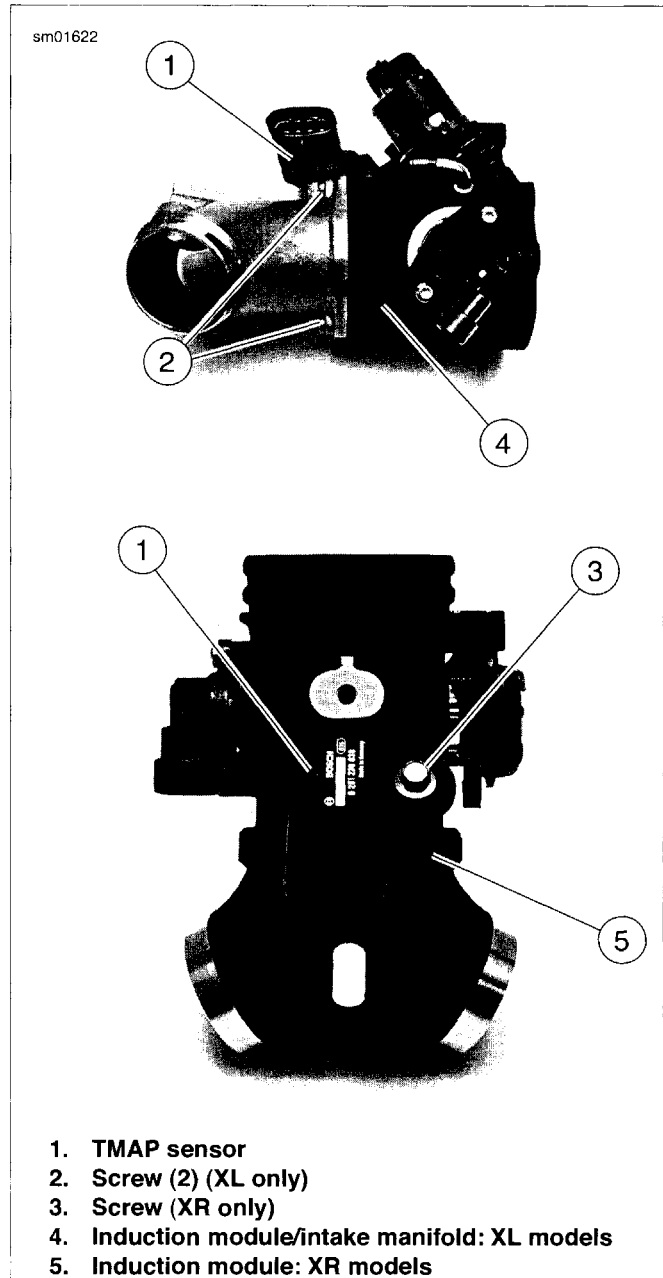
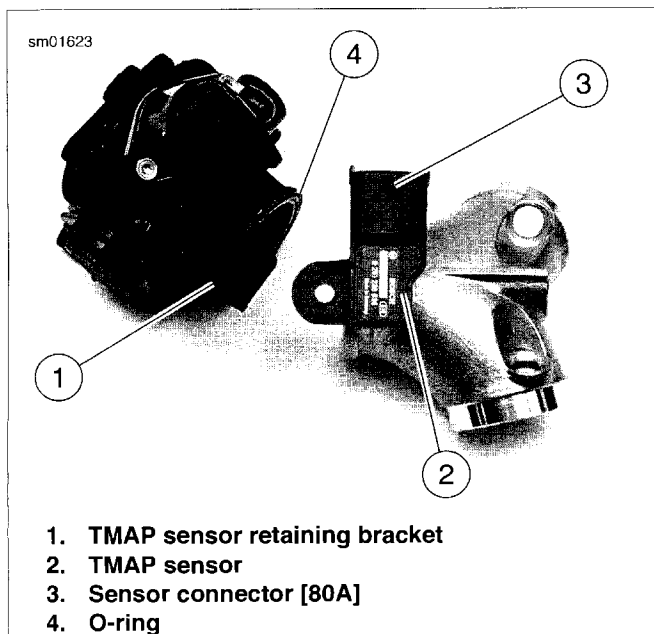

Figure 4-61. TMAP Sensor Location (Induction Module Removed From Vehicle for Clarity)
Figure 4-62. TMAP Sensor Removal/Installation (Induction Module Removed From Vehicle for Clarity)
See Figure 4-61. The Temperature Manifold Absolute Pressure (TMAP) sensor (1) performs the dual functions of monitoring air temperature and air pressure in the intake manifold.
4. See Figure 4-61. Remove two screws (2) and separate induction module from intake manifold. See 4.9 INDUCTION MODULE: XL MODELS.
5. See Figure 4-62. Pull induction module away from intake manifold far enough so that TMAP sensor retaining bracket (1) clears TMAP sensor body (2).
6. Unplug harness connector [80B] from TMAP connector [80A] (3).
3. See Figure 4-62. With a gentle twisting motion, insert sensor (2) into intake manifold with connector [80A] (3) facing rear cylinder head.
5. Examine O-ring (4) between induction module and intake manifold for cuts, tears or signs of deterioration. Install **new** O-ring if necessary. Make certain O-ring is fully seated in its groove in induction module body.
6. See Figure 4-61. Mate induction module to intake manifold and secure with two screws (2) Tighten to 35 **in-lbs** (4.0 Nm).